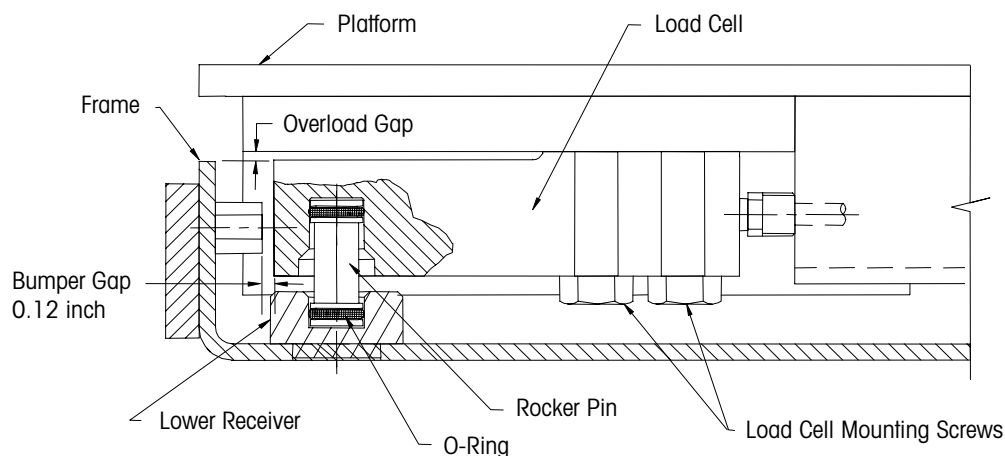

Figure 5-1: Load Cell Installation
8. Remove the two load cell mounting screws (see Figure 5-1). Lift the load cell from the mounting surface.
14. Make sure the load cell's overload gap is correct (see Figure 5-1 and Table 5-2).